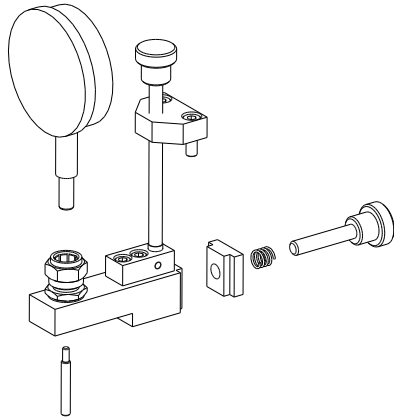
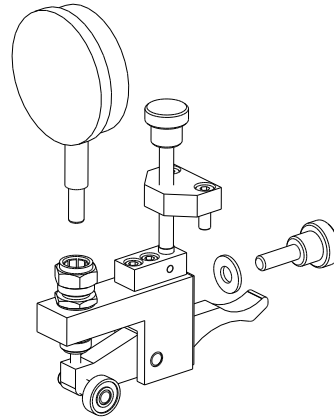

Figure 10. Dial Indicator Holder With Fine Adjust
Figure 11. Roller Checking Attachment with Fine Adjust
7.0 Rear Carrier Fine Adjustment – (See Figures 10 and 11)
Assemblies can be provided with a Fine Adjust Attachment. Figure 10 shows a Dial Indicator Holder with Fine Adjust and Figure 11 shows a Roller Checking Attachment with Fine Adjust. All of the options mentioned utilize the same basic Carrier.